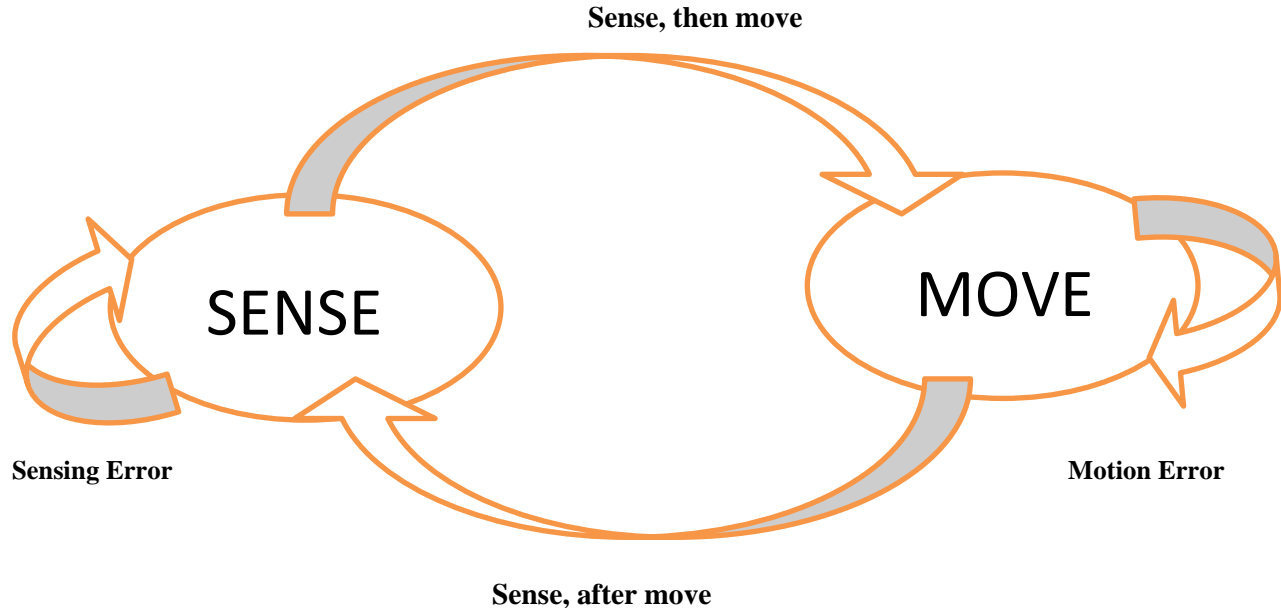

Fig.1 : General Markov's Localization chain for Real World Application
2. Markov's chain uses Bayesian distribution of probabilities to calculate uncertainties. (see fig.1)